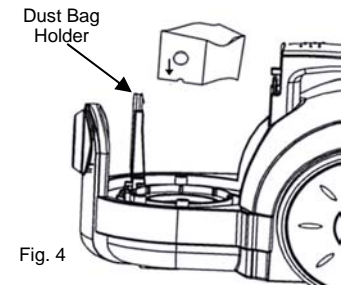

Fig. 4
3. Holding the HEPA dust bag in your hand with the arrow pointing down, slide it firmly between the slots in the bag holder. (Fig 4)